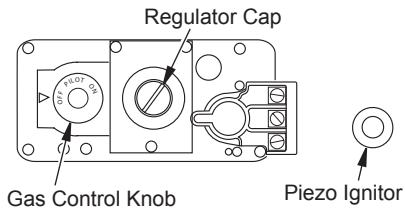

Figure 33 - Control Valve Millivolt
4. Push in gas control knob slightly and turn clockwise  to OFF (see Figure 33).
5. Wait five (5) minutes to clear out any gas. Then smell for gas, including near the floor. If you smell gas, STOP! Follow "B" in the safety information above. If you don't smell gas go to the next step.
8. Push in gas control knob all the way and hold. Immediately light the pilot by repeatedly pressing the piezo ignitor until a flame appears. Continue to hold for about one (1) minute after the pilot is lit. Release gas control knob and it will pop up. Pilot should remain lit. If it goes out, repeat steps 5 through 8.